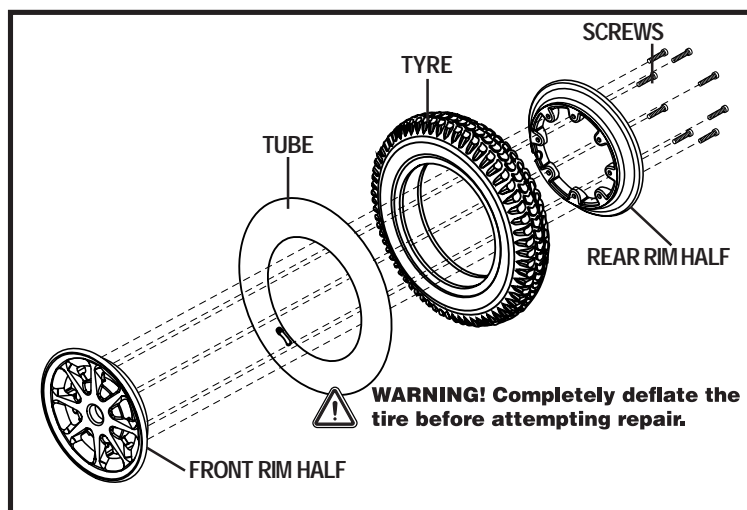

Figure 37. Jazzy 1170XL Drive Wheel Disassembled
6. Remove the screws that fasten the two rim halves together. See figure 37.